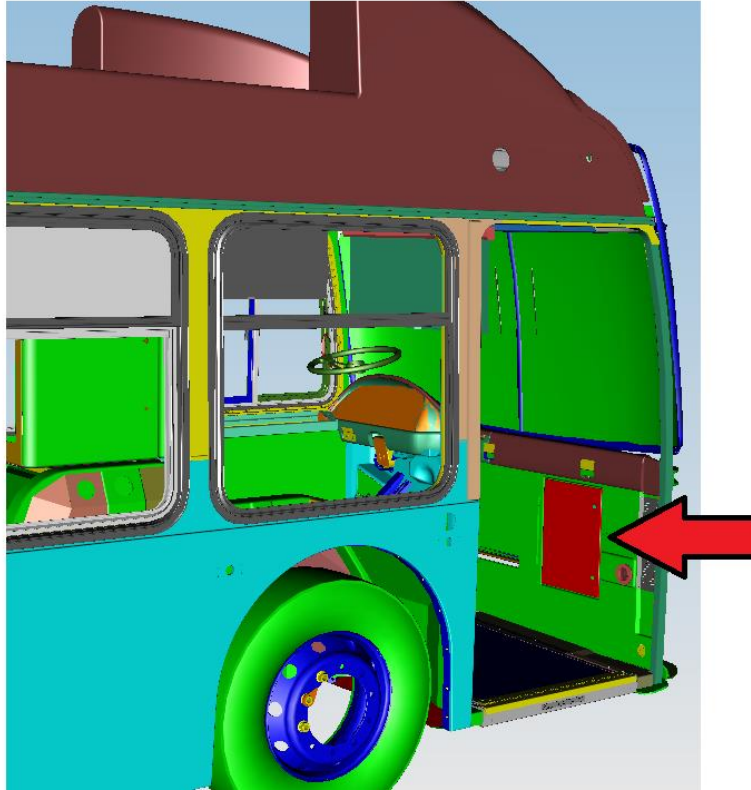

Figure 1: Ramp Power Supply Door Panel
2. Locate the lower right hand dash door at the front of the bus and gain access to the ramp power supply by opening the lower right hand dash door as shown in Figure 1.